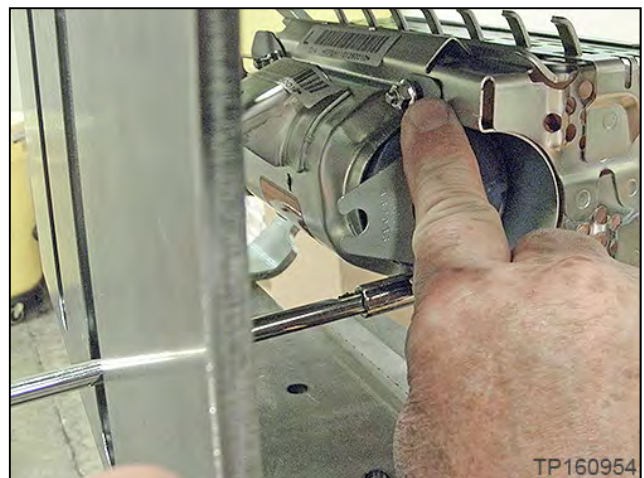
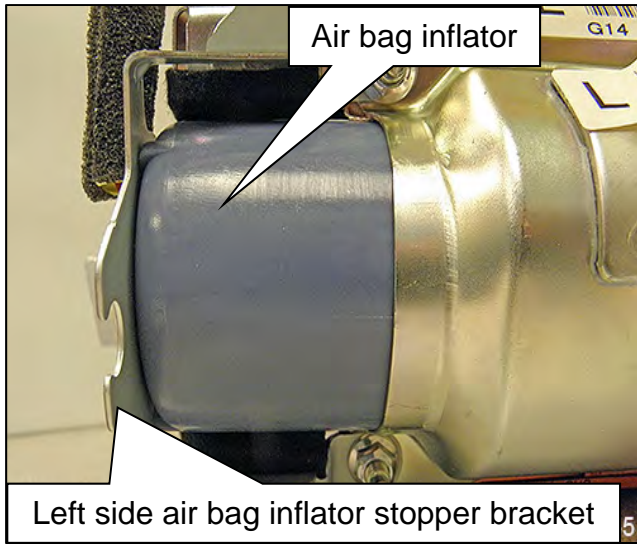
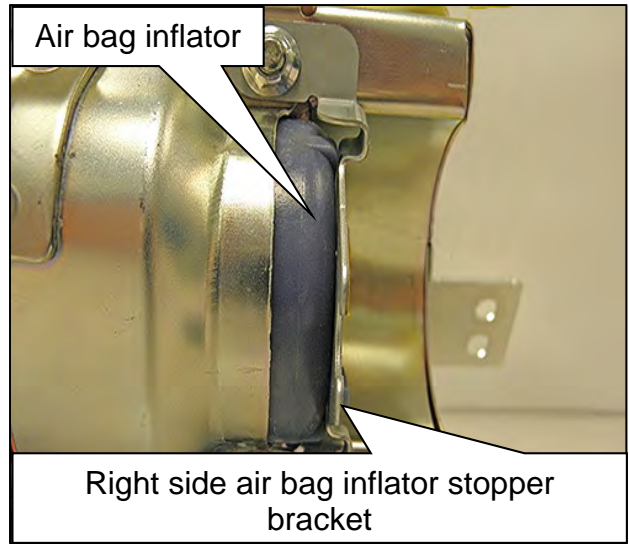

Figure 38
Figure 39
Figure 40
36. Push on the right side air bag inflator stopper bracket (Figure 38) to ensure the air bag inflator is sitting against the left side and right side air bag inflator stopping brackets (Figure 39 and Figure 40).